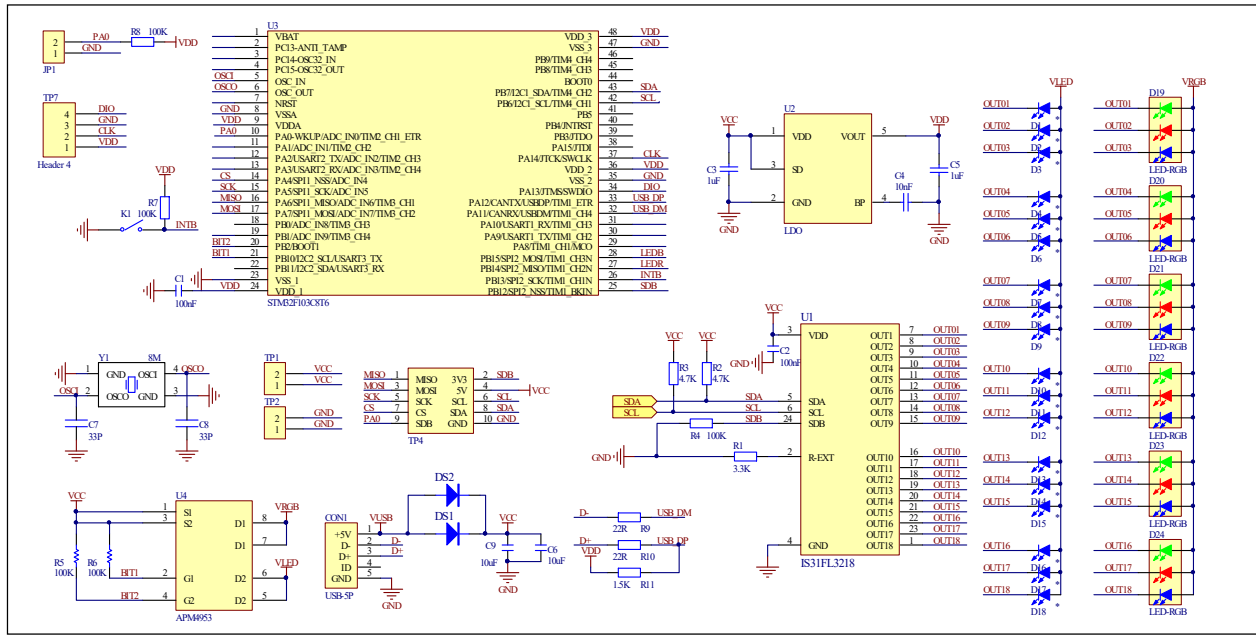

Figure 3: IS31FL3218 Application Schematic
*Bill of Materials, refer to Figure 3 above.*